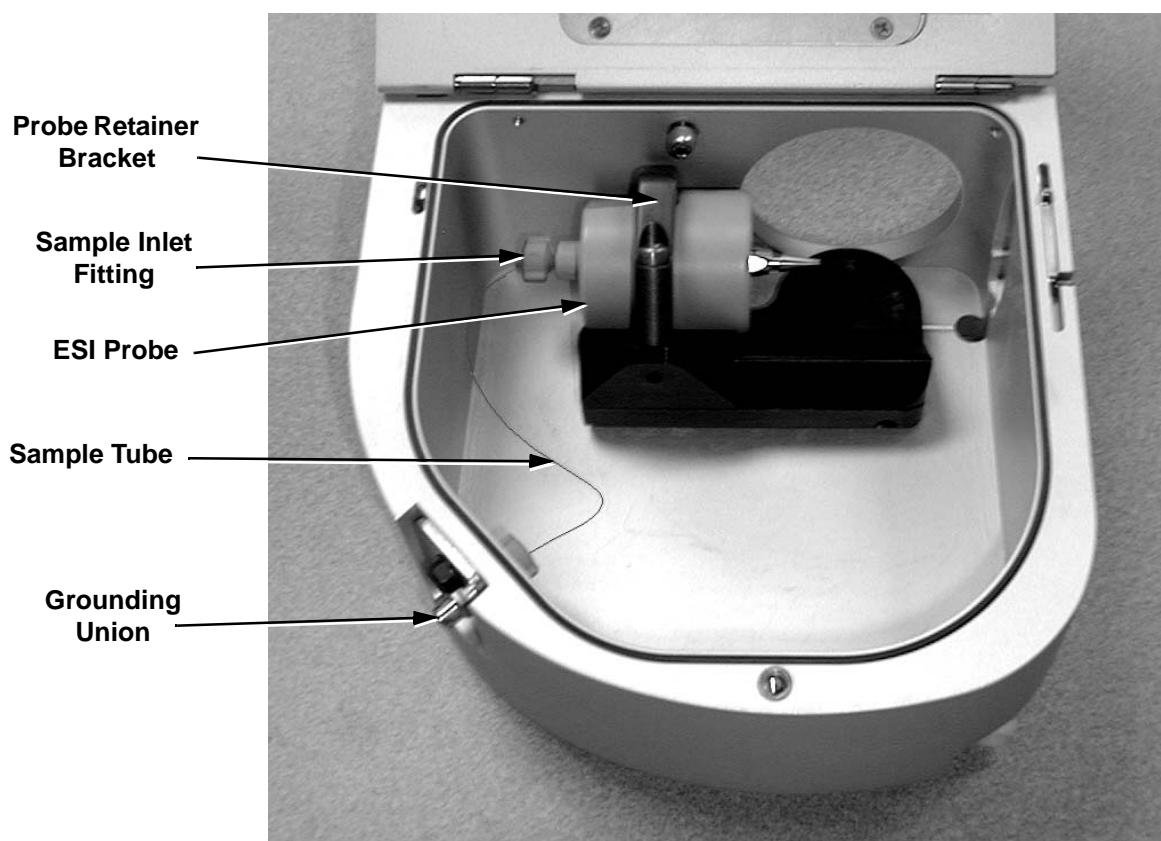

Figure 5-7. ESI probe and source housing
2. Disconnect the sample tube and fitting from the grounding union on the source housing by turning the fitting counterclockwise until you can pull the sample tube and fitting free from the grounding union. See Figure 5-7.
5. Connect the free end of the sample tube to the grounding union (Figure 5-7). Make sure that the sample tube does not pass so far into the union that it is crushed when you connect the infusion transfer line.